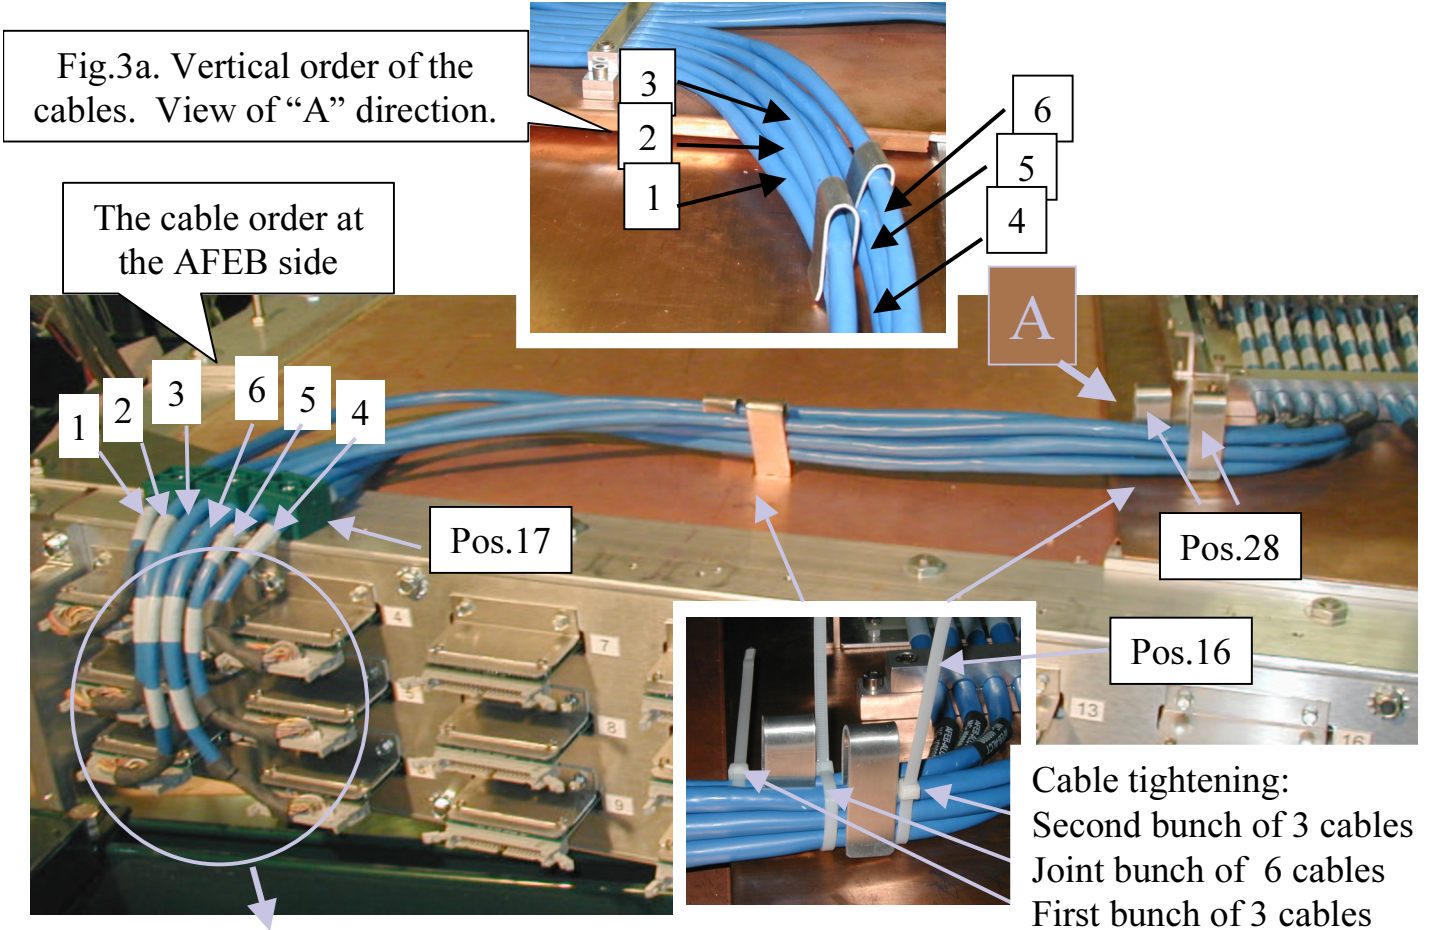

Fig.3. Arrangement of the first bunch of 6 cables.
Step 2. Set the cables between the cable strain relief RBPR-110 (pos.17) in the order 1, 2, 3, 6, 5, 4 as shown in the picture (Fig.3). Use screw M5 x25 and 8 mm socket; apply a torque of 20 lb/in for tightening the strain relief, use alcohol as a lubricant.
Step 5. Arrange the cables on the top of the chamber into two bunches of three cables in the order shown in the picture (Fig. 3). Start from the ALCT side. Use cable clamps
Step 6. Tighten the cables with the cable ties (pos.16), remove the cable clamps.
- Repeat all these procedures, steps 1- 6, with the second bunch of six cables (numbers 7, 8, 9, 10, 11, 12). Start from cable #7. Use Fig.3, 3a, 3b, 3c, and Fig.4 for reference.